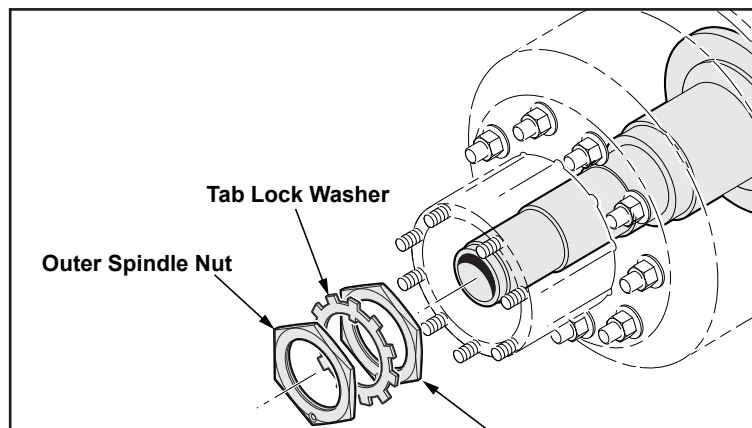

Figure 2
1. Remove the outer spindle nut and tab lock washer and set aside for reinstallation (see Figure 2).
2. Tighten the inner spindle nut to 200 Lbs.-Ft of torque then rotate the wheel end assembly at least 1 full turn (see Figure 2).